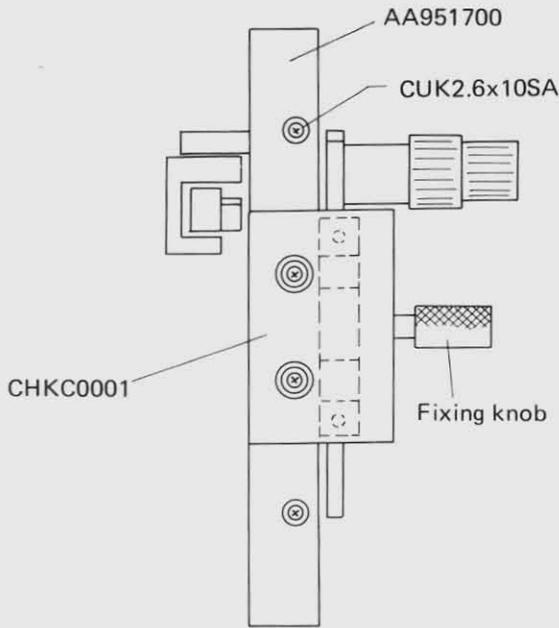

Fig. 11-20
- a) Screw the Jig CHKC0001 to Mounting base AA951700, aligning to screw thread of Mounting base. (See Fig. 11-20)